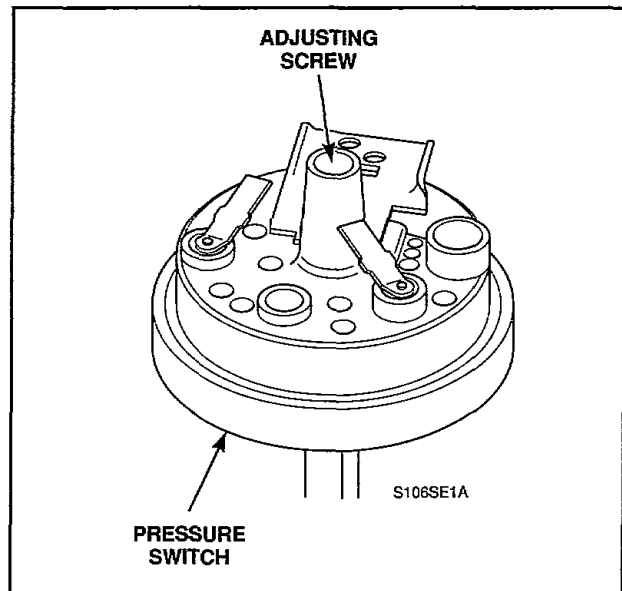

Figure 50
h. Remove sealer from around pressure switch adjusting screw, *Figure 50*.
- i. Turn adjusting screw, *Figure 50*, **clockwise** to increase water level in clothes cylinder, or **counterclockwise** to decrease water level.